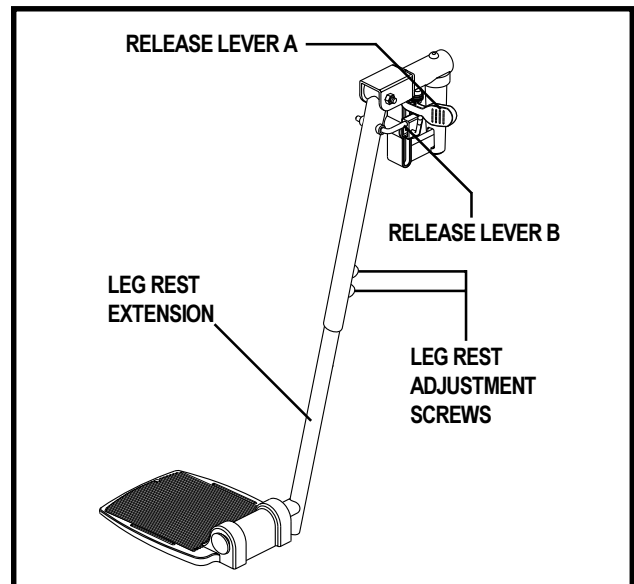

Figure 23. Elevating Leg Rest Adjustment
1. Push in release lever A. See figure 23.
1. Remove the two adjustment screws from the side of each leg rest extension. See figure 23.
1. Push down release lever B. See figure 23.